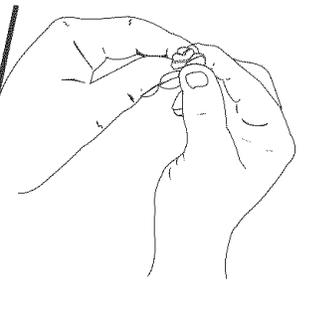

Fig. 16
5. Squeeze the filter to spread and remove excess oil (Fig. 16).